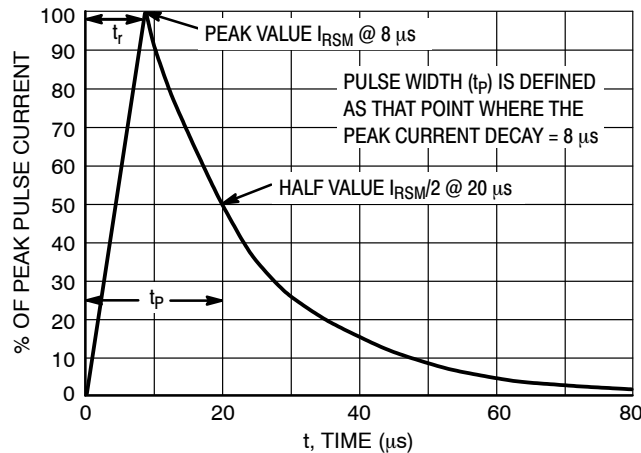

Figure 5. 8 x 20  $\mu$ s Pulse Waveform
1. Nonrepetitive current pulse per Figure 5 (Pin 5 to Pin 2).
- Nonrepetitive current pulse per Figure 5 (Pin 5 to Pin 2).
- Surge current waveform per Figure 5.